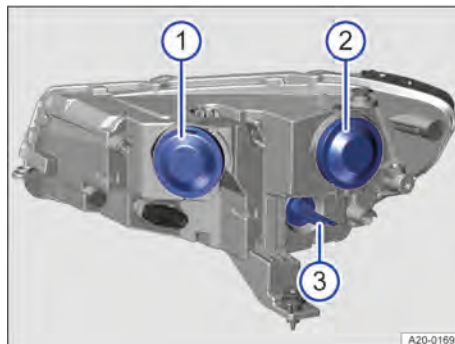

Fig. 172 In the engine compartment: covers on back of the right-hand headlamp.
1. Pull off rubber cover from back of headlamp → Fig. 172 ①.
5. Fit the rubber cover onto the rear of the headlamp → Fig. 172 ①.
1. Pull off rubber cover from back of headlamp → Fig. 172 ②.
5. Fit the rubber cover onto the rear of the headlamp → Fig. 172 ②.